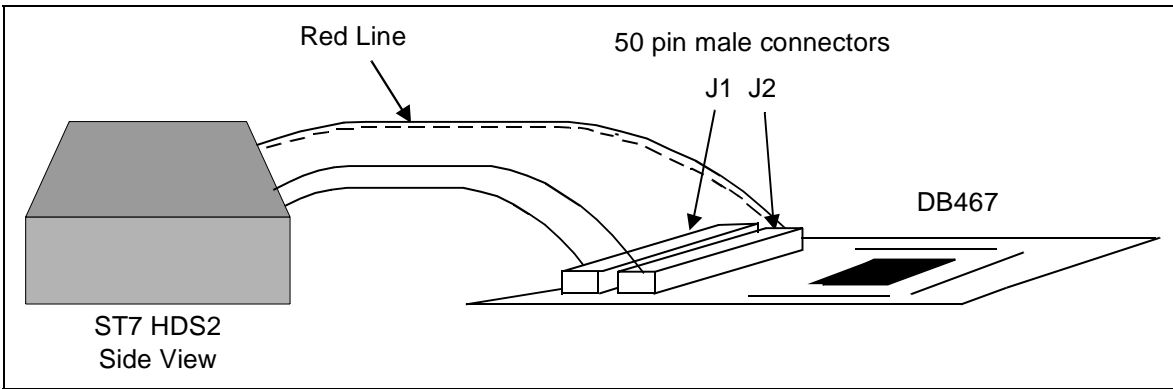

Figure 5: Connecting the emulator to the generic probe
- 2 Plug the two 50-wire flat cables into the J1 and J2 connections on the probe, as described below (refer also to *Figure 5*):